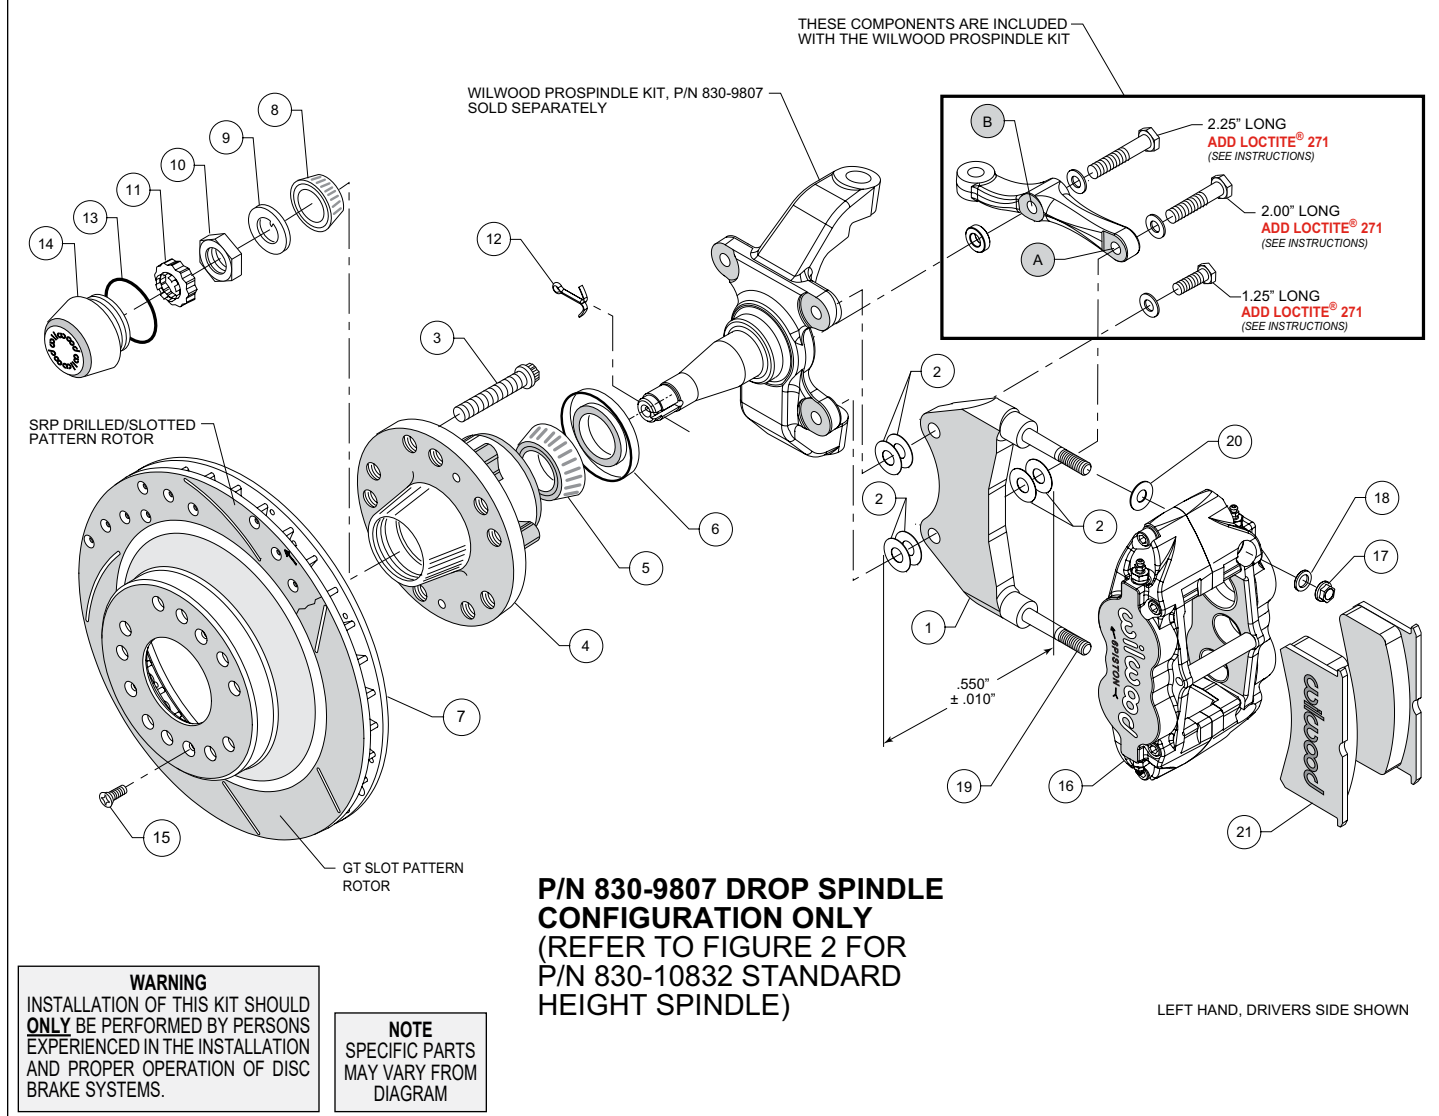

Figure 1. Installation Configuration For Drop Spindle, P/N 830-9807
Assembly Instructions (numbers in parenthesis refer to the parts list and Figures 1 or 2 on the preceding pages):
- NOTE:** Each Wilwood ProSpindle kit includes bolts, washers, and a spacer to mount the steering arm and caliper bracket. The various bolts are identified by length in the following instructions and in Figures 1 and 2.
- Orient the bracket as shown in Figure 1 and Photo 1. Install at top spindle hole using 1.25" long bolt and .06" thick washer (from ProSpindle kit), and two .016" thick shims (2) between the bracket and spindle, Figure 1.
- Orient the steering arm, and identify the hole marked 'A', as shown in Figure 1. Install at bottom spindle hole using 2.00" long bolt and .06" thick washer (from ProSpindle kit), two .016" thick shims (2) between the bracket and steering arm, and another two .016" thick shims (2) between the bracket and spindle, Figure 1. The bracket is located between the steering arm and spindle. **NOTE:** The bracket and shim washers must add up to a total thickness of .550" $\pm$.010", Figure 1.
- Finish attaching the steering arm through the hole marked 'B', as shown in Figure 1. Install using 2.25" long bolt, .06" thick washer, and .25" thick spacer (all from ProSpindle kit), Figure 1.
- Screw dust cap (14) into hub (4), Photo 6. Friction created by the o-ring (13) on the dust cap keeps it from unscrewing.
- Slide the hat/rotor (7) onto the hub (4) taking care to align the small countersunk holes in the hat with the small threaded holes in the hub. **NOTE:** The hat must fit flush against the hub face or excessive rotor run out may result. Install three flat head screws (15) through the small holes in the hat (7), Photo 6, and torque to 85 in-lb.
- NOTE:** This kit contains distinct right and left hand calipers that must be mounted in a specific direction, as described below. Initially place one .035" thick shim (20) on each stud (19) as shown in Figure 1 or 2, and Photo 7. Mount the caliper (16) onto the bracket (1) using lock nuts (17) and washers (18), Figure 1 or 2. Ensure that the caliper is mounted so that the largest pistons are at the rotor exit end of the caliper, in relation to the direction of rotor rotation. Temporarily tighten the lock nuts and view the rotor through the top opening of the caliper. The rotor should be centered in the caliper, Photo 8. If not, proceed as follows:
- Adjust by adding or subtracting shims (2) between the bracket and the spindle. Always use the same amount of shims on each of the two bolts between bracket and spindle.
- For the lower bracket mount bolt, if a shim was added between the bracket and spindle, then a shim must be removed between the steering arm and bracket, such that the total thickness of bracket and shims remain equal to .550 ± .010", Figure 1.